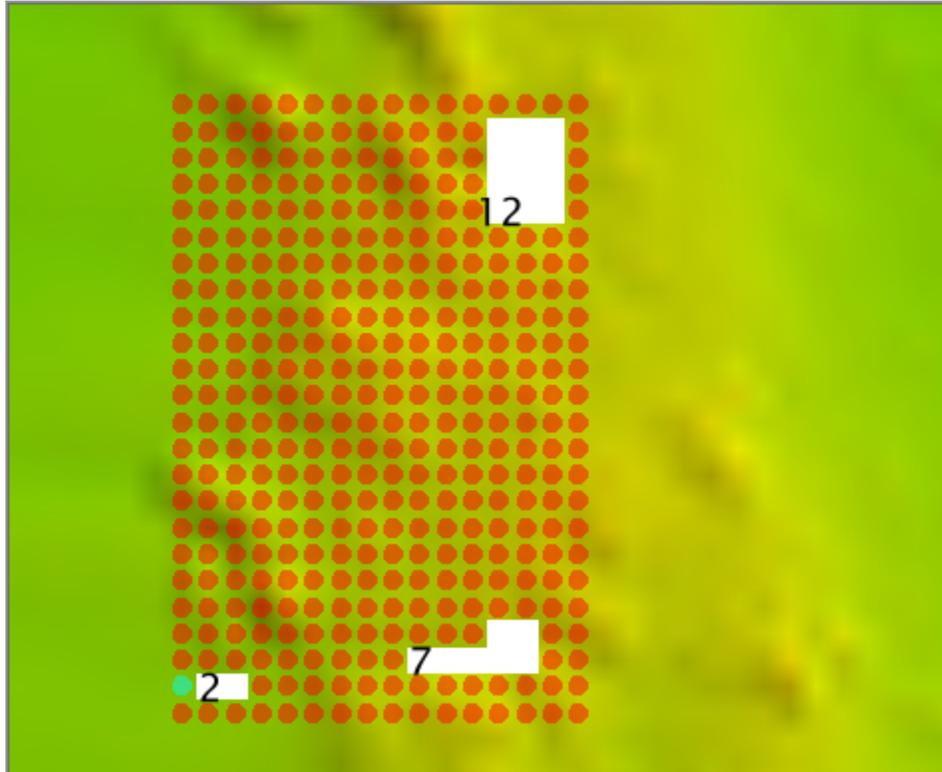

Fig. 2.13: Example for All holes.
- In the example in (Fig. 2.13), the **All holes** setting marks three holes of 12, 7, and 2 nodes.